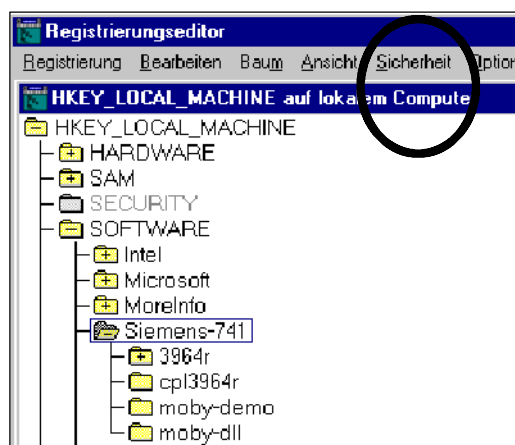
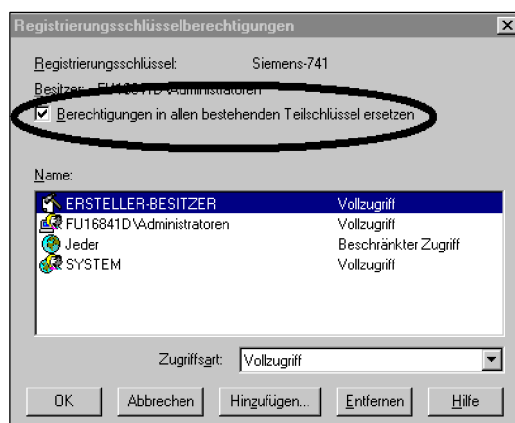

Figure 2-1 HKEY_LOCAL_MACHINE window
Figure 2-2 “Registrierungsschlüsselberechtigungen” window
2. In the window HKEY_LOCAL_MACHINE (see figure 2-1), open the path “Siemens-741.”
3. Select “Sicherheit” in the menu bar. See figure 2-1. The window “Registrierungsschlüsselberechtigungen” appears. In this window, enable the option “Berechtigungen in allen bestehenden Teilschlüssel ersetzen”. See figure 2-2.